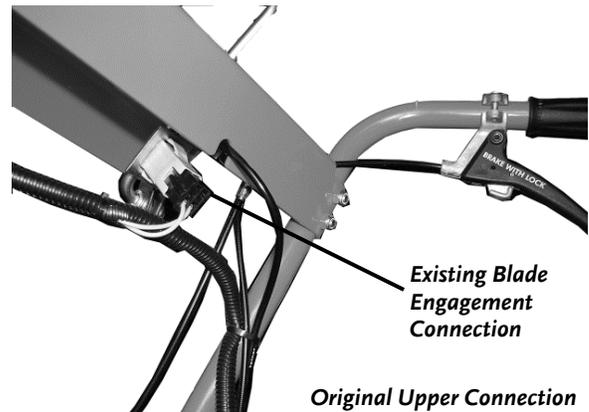

Figure 13
2. Locate the Blade Engagement connection beneath the Handlebar Control Panel (**Figure 13**) and remove the existing connector from the Blade Engagement Switch.